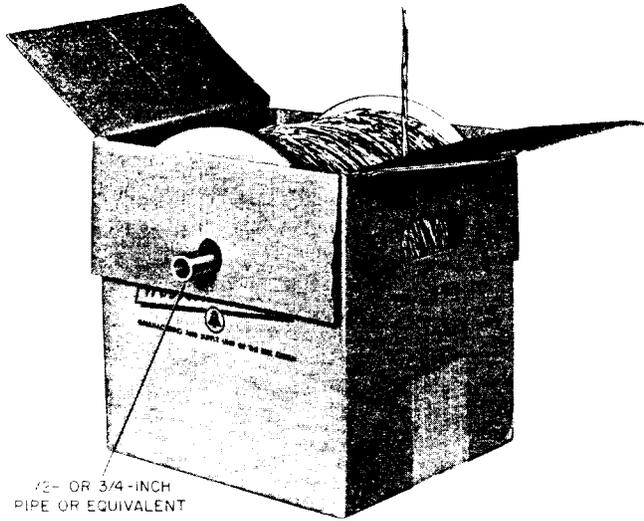

Fig. 4—Carton Used as Spool Support for D Inside Wiring Cable or H Station Wire
3.01 To dispense H station wire or 4-pair D inside wiring cable from spool-in-carton, open top of carton and fold sides down to match holes in side of carton; then insert pipe or equivalent implement through holes in carton and hole in spool, using the carton as spool support (Fig. 4).